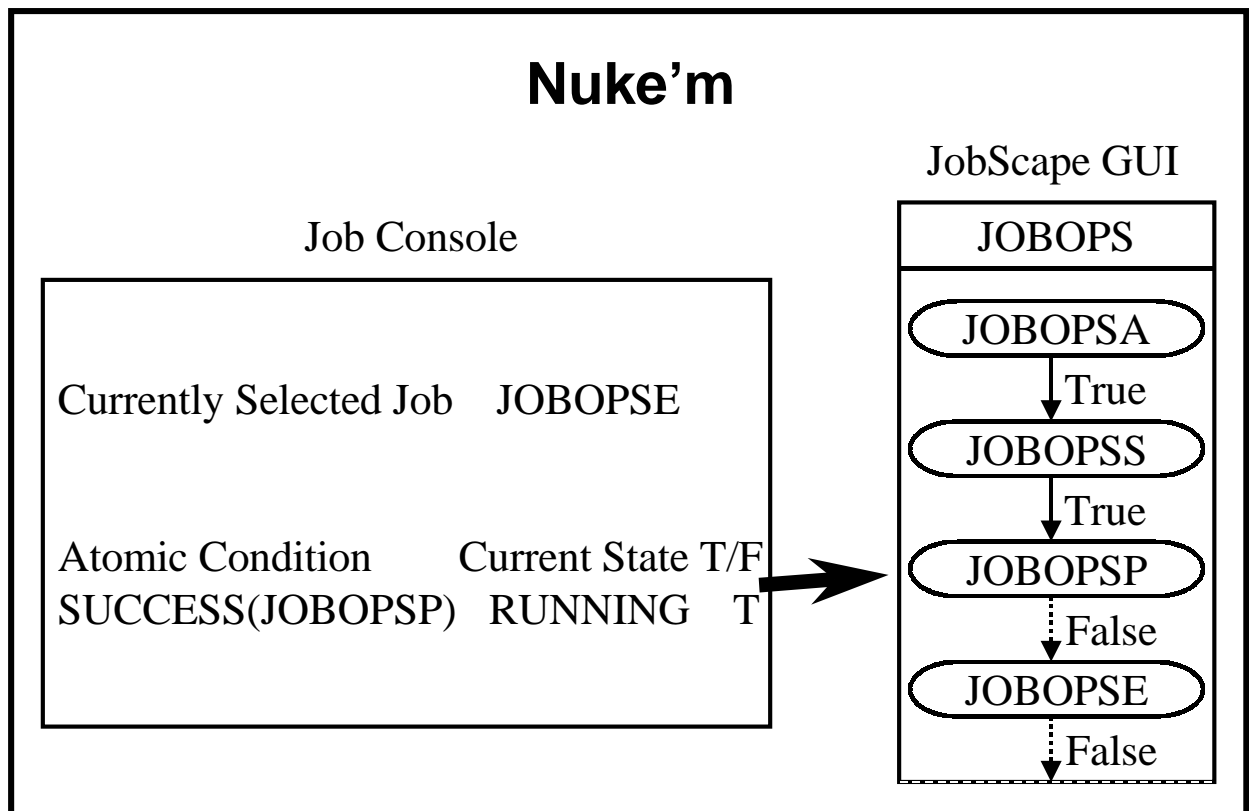

Figure 49. Atomic Conditions and Upstream Dependencies
- Figure 49 shows how atomic conditions relate to job dependencies as displayed using JobScape. (In this case DPR3 and DPR12 are atomic conditions for DPR45.)